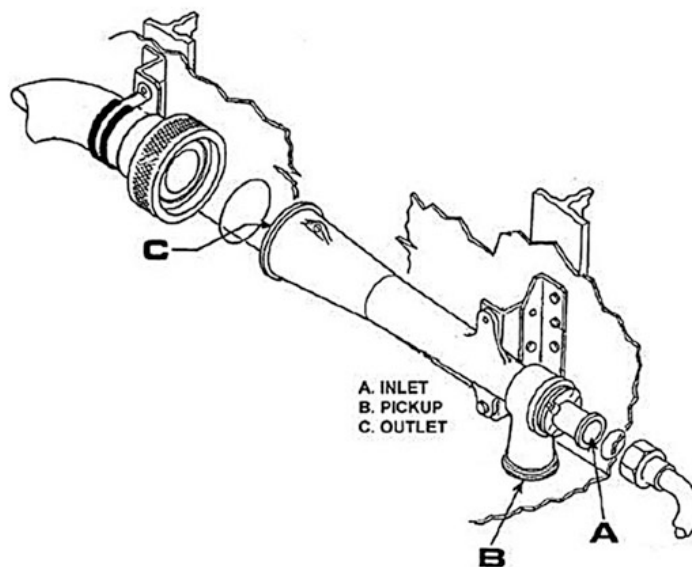
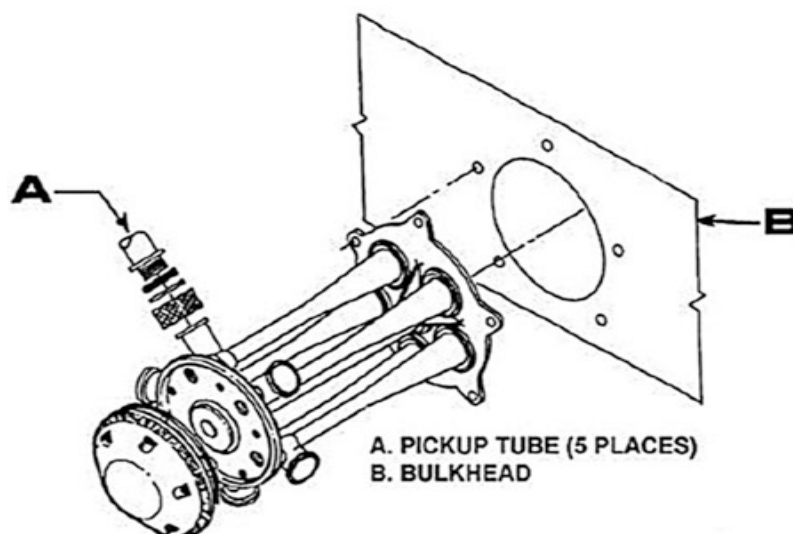

Figure 4-1. Jet/ejector pump.
Figure 4-2. Jettison pump (bulkhead-mounted).
All fuel tanks on the cargo aircraft, including the vent boxes, are equipped with ejector- or jet-type pumps (FO 3, item S). These jettison/ejector pumps are also illustrated in figure 4-1. They operate from boost-pump bleed pressure and have variable displacement. A small line is tapped off the boost pump to provide this pressure. Fuel flows through this line to the inlet (A) of the jettison/ejector pump. As this fuel passes through the jettison pump and exits the outlet port (C), it creates suction at the pickup port (B), which is normally facing downward, only a small distance from the bottom of the tank. Fuel is then drawn into the pickup port and added to the fuel coming from the boost pump. This is known as the Venturi principle.
The jettison/ejector pumps have no moving parts to wear out, and are installed in several different areas of the tank, thus ensuring fuel is picked up from any area. The pump in figure 4-1 is installed in the lower corner of the tank. In contrast, the pump in figure 4-2 is mounted on a tank bulkhead and has many pickup tubes, which are routed to various areas of the tank. The fuel that is picked up by these jettison pumps is eventually routed to the surge box, as shown in the schematic on FO 3, item T.